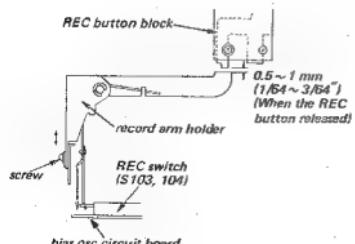

Fig. 3-19. Record button block adjustment
1. See Fig. 3-19. Place the unit in the STOP mode. Check to see that the clearance between the REC button block and the record arm holder is 0.5 ($1/64$ ") to 1 mm ($3/64$ "). If necessary, adjust the position of the REC arm holder by loosening the screws.